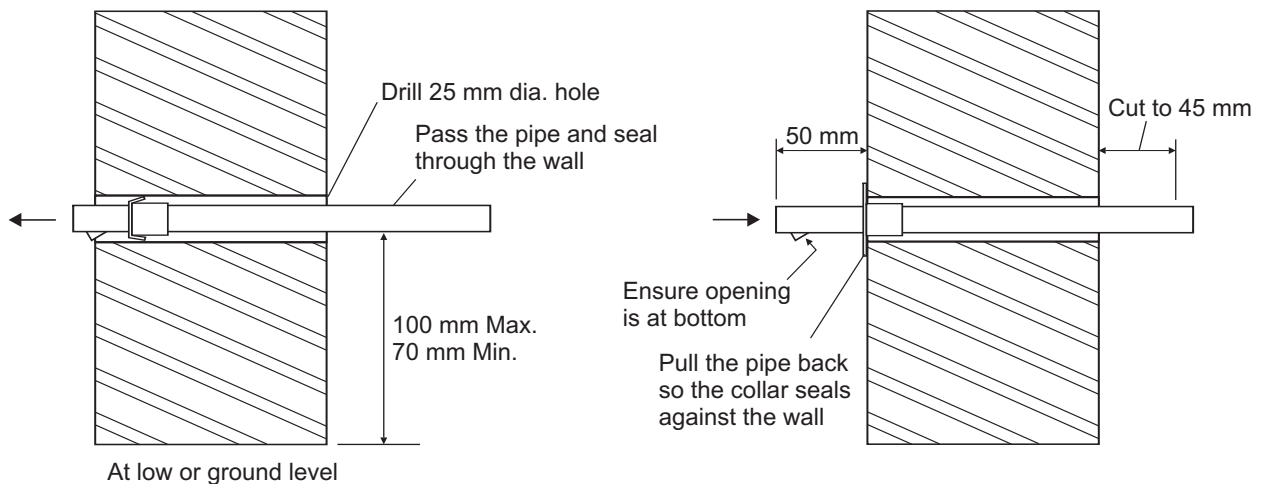

Fig. 5
d. Pressure Relief Valve Discharge Pipe Terminal Installation (if applicable) - See Fig. 5
Push the wall sealing collar, supplied, onto the discharge pipe terminal so that the terminal protrudes as shown in Fig. 5.